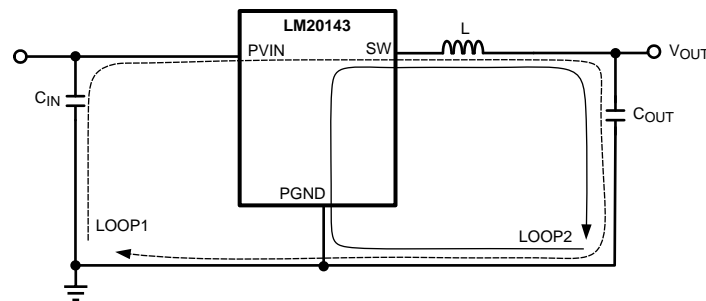

Figure 40. Schematic of LM20143 Highlighting Layout Sensitive Nodes
1. Minimize area of switched current loops. In a buck regulator there are two loops where currents are switched very fast. The first loop starts from the input capacitor, to the regulator VIN pin, to the regulator SW pin, to the inductor then out to the output capacitor and load. The second loop starts from the output capacitor ground, to the regulator PGND pins, to the inductor and then out to the load (see Figure 40). To minimize both loop areas the input capacitor should be placed as close as possible to the PVIN pin. Grounding for both the input and output capacitor should consist of a small localized top side plane that connects to PGND and the die attach pad (DAP). The inductor should be placed as close as possible to the SW pin and output capacitor.